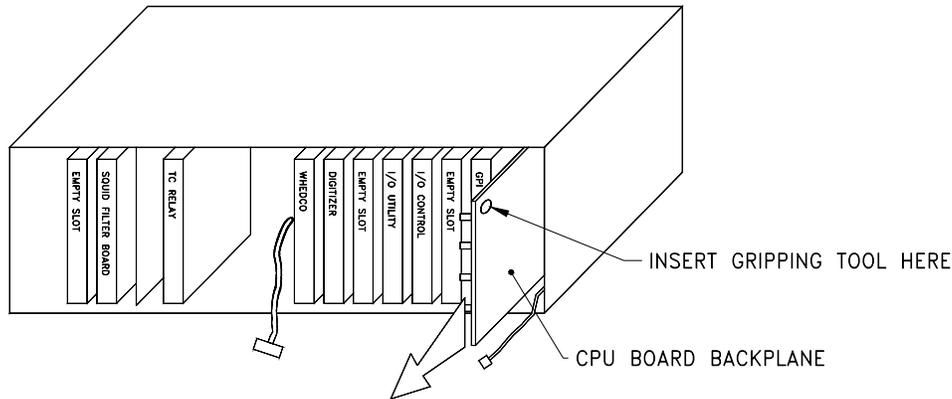

Figure 5. Removing the CPU board
- Pull the CPU board out of the 1822 (Figure 5) by attaching a gripping tool to the hole in the board or by gripping the board at the top and bottom edges and moving it up and down a little as you pull on it.